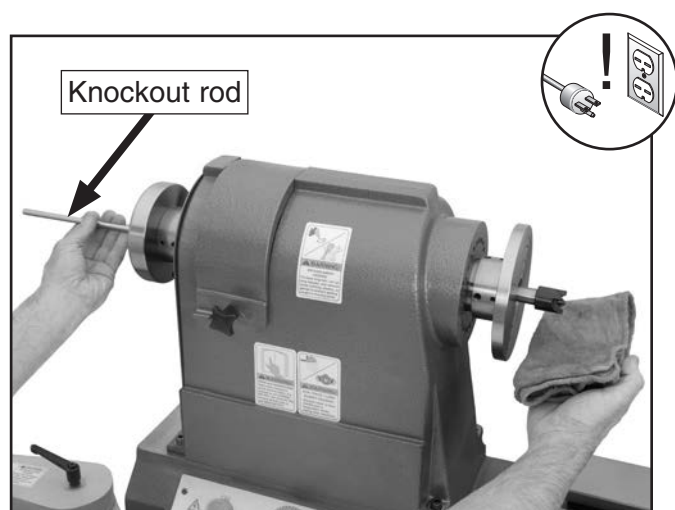

Figure 18. Removing the headstock center.
3. Insert the knockout rod through the outbound end of the spindle and firmly tap the center to remove it, as shown in **Figure 18**.